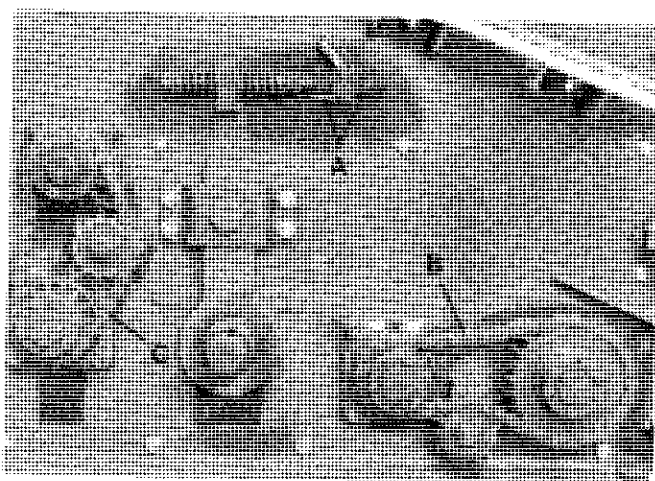

FIGURE 29 - STARE ROLL DRIVE (Shield removed for clarity)
Protection against rock damage to the conveyor rolls is provided by spring loaded arms (see figure 29) on both ends, allowing the conveyor rolls to move when rocks enter the conveyor roll bed. Set springs at 2" on each end of conveyor rolls.
The conveyor rolls should run parallel to each other. To adjust, loosen nuts (A) on adjusting bolt and adjust conveyor roll to desired spacing. Retighten nuts (see figure 29).
The star roll is driven by a roller chain (B) (see figure 29). The stars help to move the beets away from the lifter wheels onto the conveyor roll bed.
The diverter roll is driven by a roller chain (C) (see figure 29). It is designed to keep the area in front of the wheel elevator clear of build-up and enhance the beet flow to the left side of the harvester.